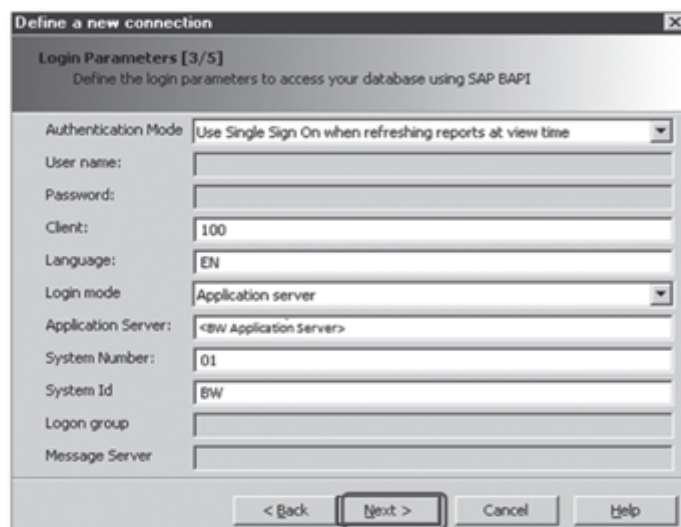

Figure 13.7 Maintain Login Parameters
5. On the next screen, maintain the login parameters for the SAP NetWeaver BW system. The Authentication Mode can be based on single sign-on (SSO), or you can maintain a specific user name and password for the system (Figure 13.7). Go to the next screen after all of the relevant details are entered in this screen.